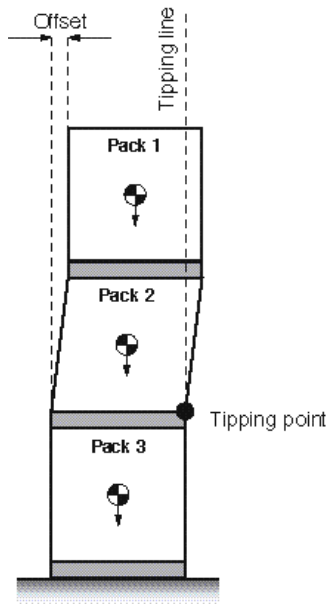

Figure 3 The effect of out-of-shape packs on stability - lozenged packs
- Out-of-square or lozenge-shaped packs affect the stability of the stack and cause an increase in tension in the banding material. Figure 3 shows how a lozenge pack shifts the centre of gravity of packs above.